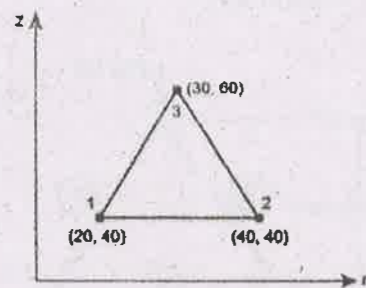

Fig 14(b)
- (b) The nodal co-ordinates for an axisymmetric triangular element are given in Fig 14(b). Evaluate the strain-displacement matrix. (16)